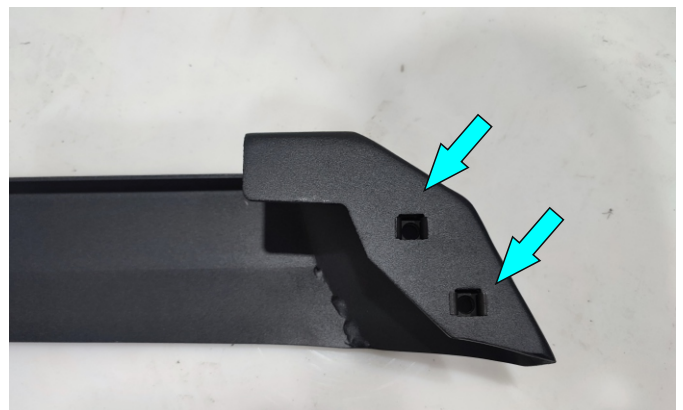

Fig.85
81. Install cage nuts M8 (item F) on lightbar cap (item 6) as shown on fig.85.